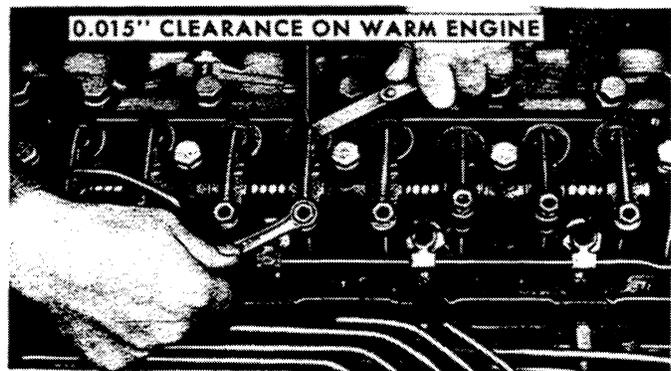

Figure 18
13. Adjust the valve lash to .015" clearance while the engine is running at idle speed, as shown in Figure 18.